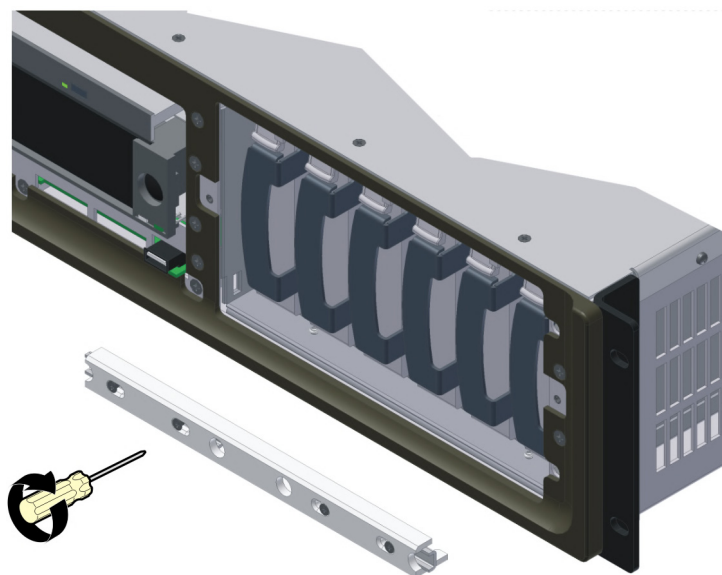

Figure 4-18 Reinstalling the DSL100 Retaining Bracket
6. Position the retaining bracket in front of the internal drives, lining it up with the screw holes, then use a Phillips screwdriver to reinstall its six screws and secure the drives, as shown in Figure 4-18.